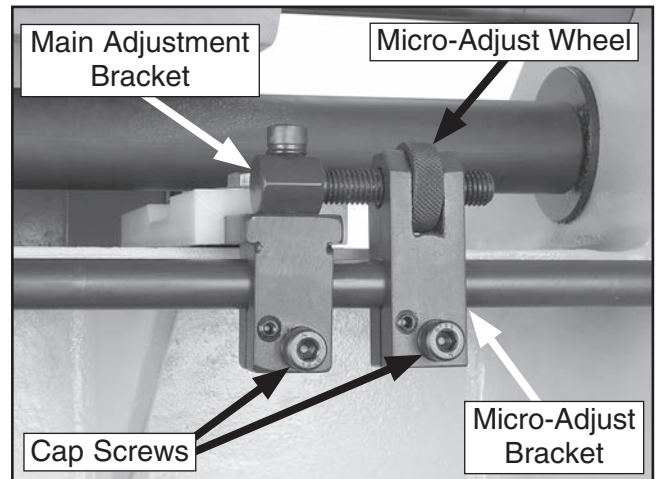

Figure 29. Horizontal fence adjustment components.
- Familiarize yourself with the horizontal fence adjustment components in **Figure 29**.
- Loosen both cap screws shown in **Figure 29**.